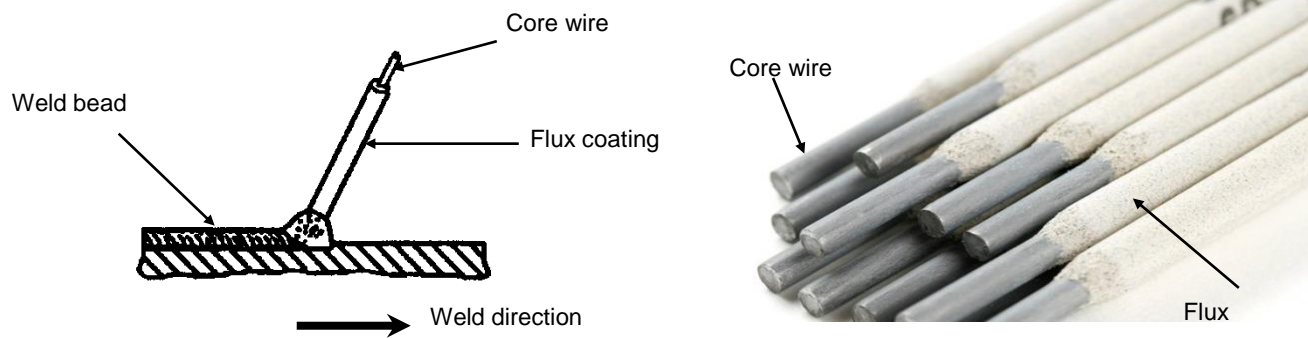

FIG 19.
- The melted flux coating produces slag, which helps to shape the weld bead. (Fig 19 on the following page)